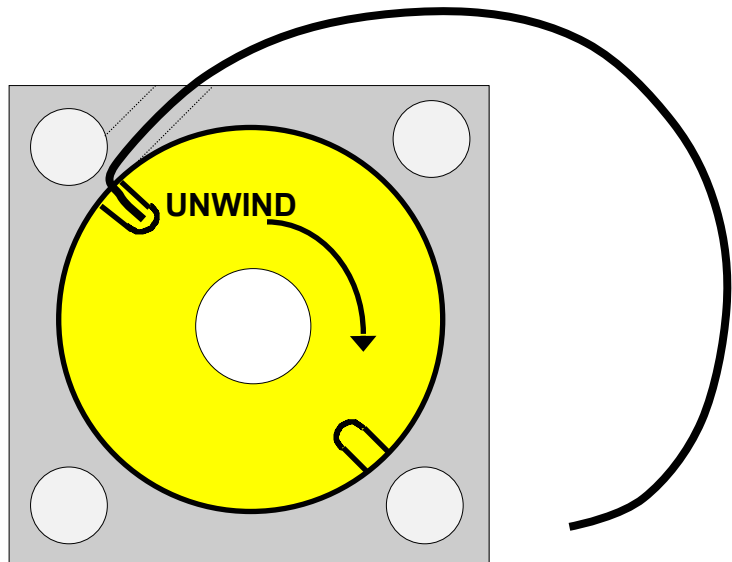

Figure 1
2. Use GED spanner wrench (T00023) to turn gold endcap clockwise. The keeper ring will start to come out of the small hole in the side of the air cylinder. Continue turning clockwise until the keeper ring is free from the gold endcap. See Figure 1.